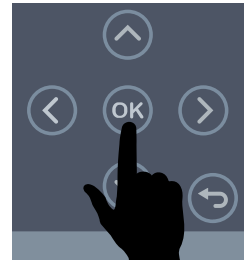

Figure 84. OK Button
1. From the View Menu on the digital controller, press the **OK button** (Figure 84) on the digital controller.